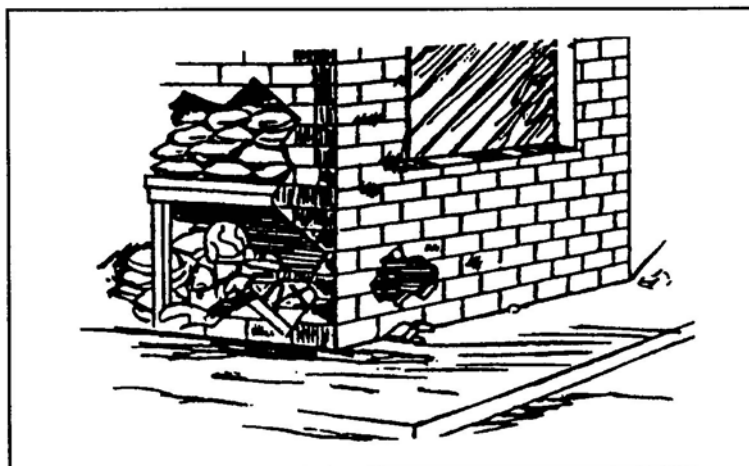

Figure 9. Low machine gun position.
- b. Machine guns should be emplaced as low as possible, using loopholes behind shrubbery or under doorjamb. Basement windows can also be used. By placing the machine gun at a lower level, grazing fire is obtained (Figure 9).